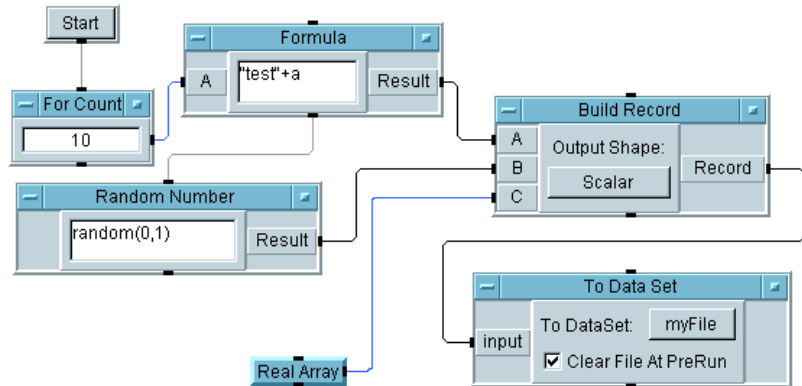

Figure 143 Storing an Array of Records in a DataSet
- 8** Run the program. It should put an array of ten records into the DataSet called **myFile**, as shown in Figure 143.